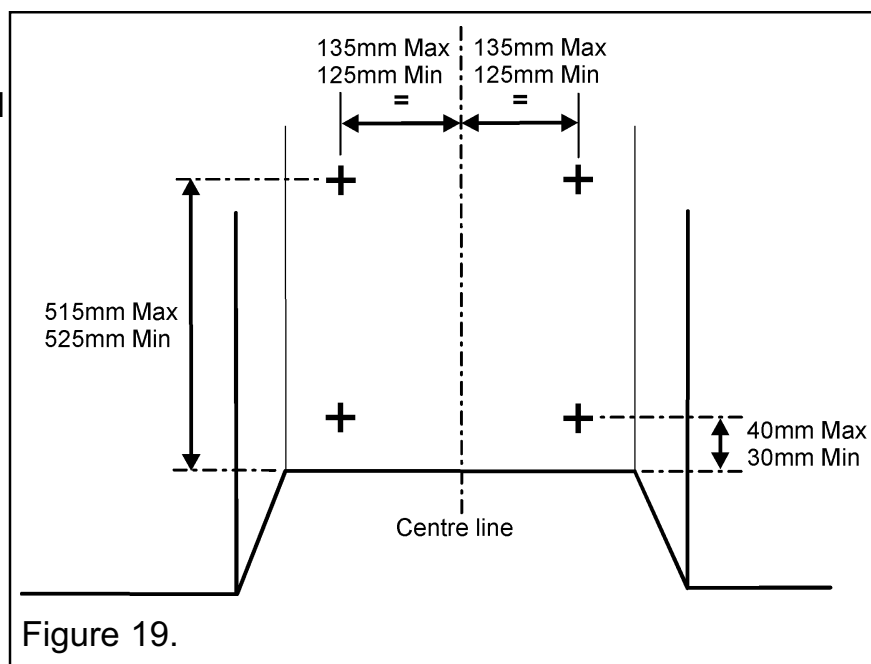

Figure 19.
2. Drill four holes in the rear wall of the fireplace for the eyebolt plugs. The holes should be drilled within the range of positions shown in figure 19 using a suitably sized masonry drill for the fibre / wooden plugs supplied. The holes should be equidistant each side of the centre line of the